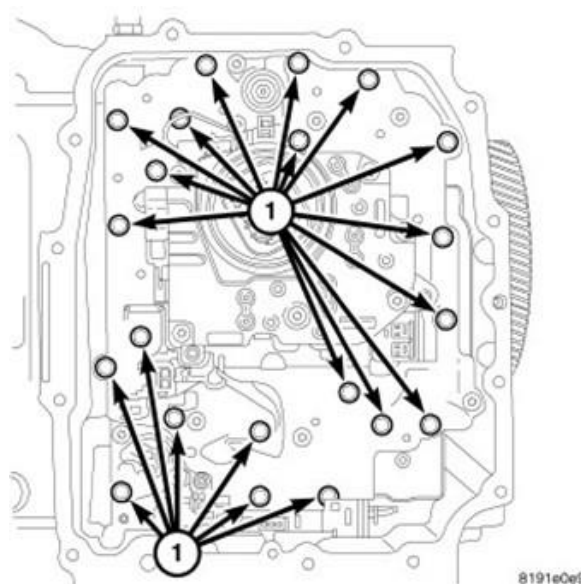

Figure 14 – Valve Body
- 24. Remove valve body bolts (Figure 14).